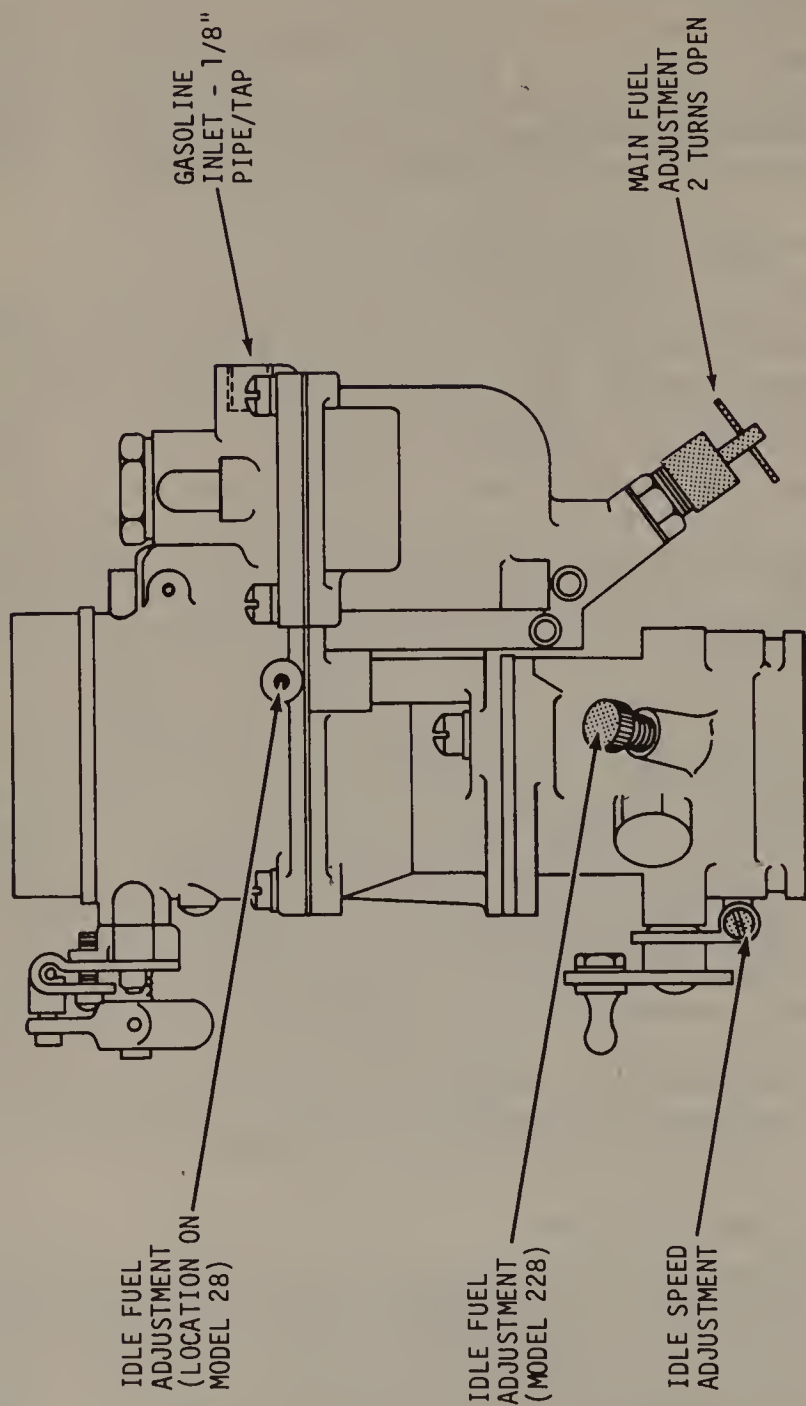
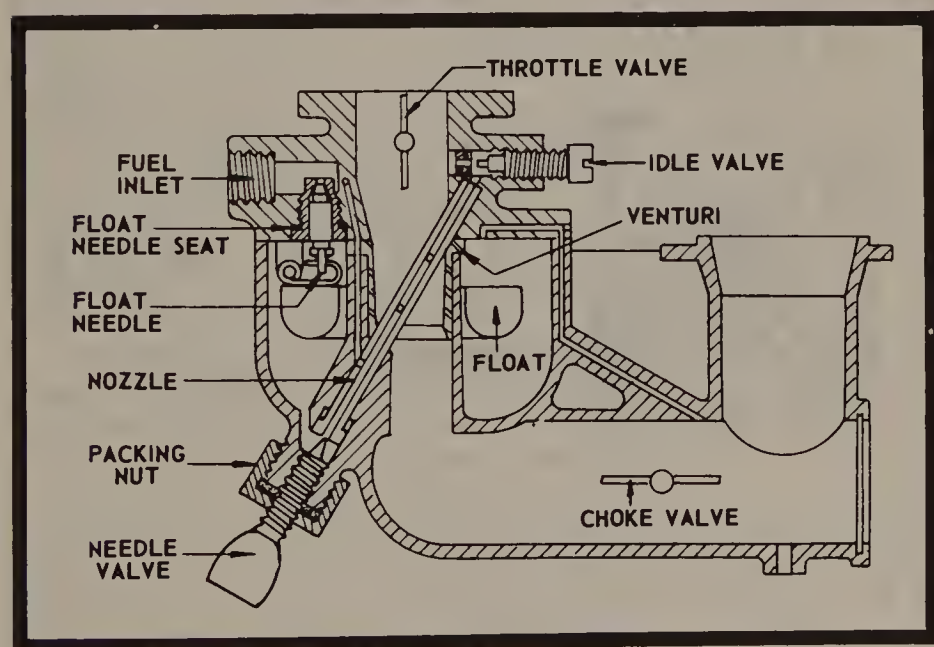

Fig. 3-6. A Downdraft Carburetor, Showing the Adjustment Screws. (Courtesy Kohler of Kohler.)
Fig. 3-7. Series D Lawnboy Sidedraft Carburetor. This design includes a primer for quick starting. (Courtesy Gale Products.)
These types are more sophisticated than the suction-lift types. Figs. 3-6, 3-7, and 3-8 show three styles which are found on most of the small engines of the world. The updraft design is the oldest and has the advantage that it does not increase the height of the engine. On the other hand, starting may be difficult, since the fuel-air mixture has some considerable distance to travel before it enters the chamber. Another disadvantage is that the mixture must make a 90 degree turn
Down-draft carburetors, such as the one pictured in Fig. 3-6, are quite efficient, but increase the height of the engine. Motorcycles and outboards are almost always equipped with side-draft carburetors such as the Lawnboy type shown in Fig. 3-7. A small disadvantage of both the side- and down-draft types is that when they're flooded, fuel dribbles into the engine, making starting difficult and increasing the fire hazard.
Float type carburetors are complicated, and contain a large number of small ports and passage ways which must be cleaned prior to tuning. The procedure is to remove the carb from the engine and strip it completely. Be careful to use screwdrivers with the blades ground to exactly match the slots in the jets. The slots can be "jimmied" and throw off the mixture. If you are disassembling an unfamiliar design, lay the parts out on a clean bench in the order that they were removed. On Clinton, Tecumseh, Lawson, and Lawnboy engines the main jet nozzle (see Fig. 3-7) may have a tiny hole cut through on the side of the threaded end. This hole is not much larger than a human hair, but it is critical for low-speed operation. It must be aligned with a port in the carburetor body. You can uncover this port by removing a small brass expansion plug which is on the underside of the carb body, near the top of the float chamber. Use a small screw extractor and be careful not to lose the plug. Now, when installing the nozzle, tighten it until you can insert a piece of stiff wire (a wire wheel is a good source) through the port and into the hole. This operation takes a little patience, but it is routinely done in some shops. Replace the plug. An alternative is to purchase a replacement nozzle, which has a slot cut around the threads so that gas will flow regardless of alignment. These nozzles cost about a dollar each.
3. Adjust the high-speed needle first. The needle may be below the float bowl or on top of the carburetor body (Fig. 3-6) or on the side of the body, in line with the low-speed needle. If you are not certain, look for the low-speed needle—it will always be the one nearest the butterfly. The high-speed jet should be adjusted to give smooth response when the throttle is blipped. "Four-stroking" (firing every other revolution) on two-cycles is a sign of an over-rich mixture. Black smoke indicates the same thing on four-cycles.